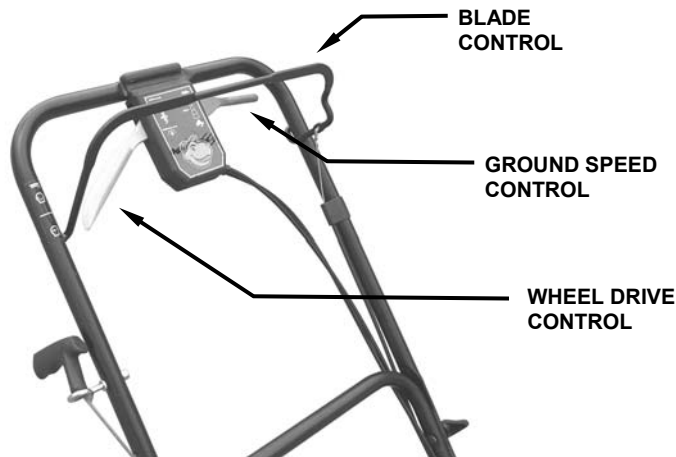

FIGURE 2.1
2.1.2. Check blade control, wheel drive control, and ground speed control to insure they work freely. See Figure 2.1.